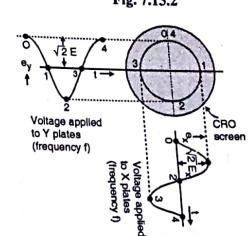

Fig. 7.13.3
- (ii) With equal voltage and  $90^\circ$  phase difference In this case, on CRO screen we get a circle as shown in Fig. 7.13.3.